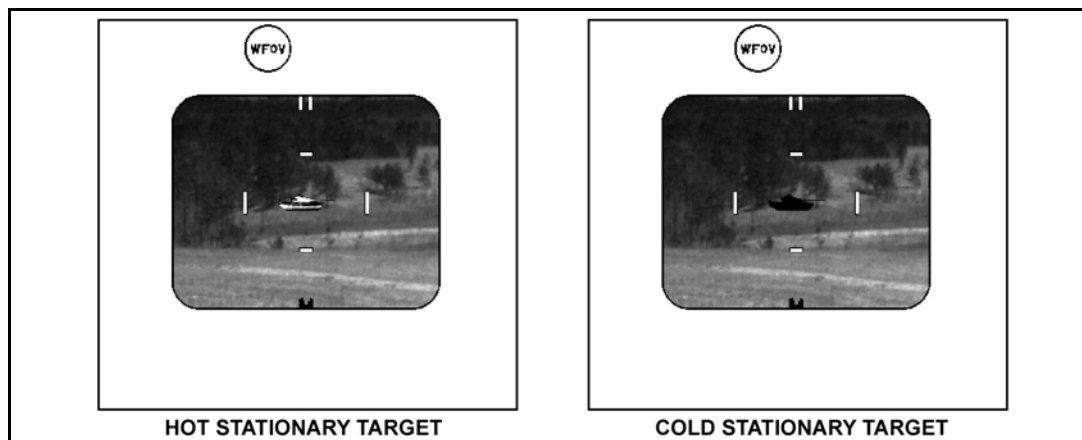

Figure 4-23. Stationary targets.
(1) **Rapid Scan**. The rapid scan method is used to detect obvious signs of enemy activity. This type of scan is used when first occupying a fighting position. (Figure 4-23). The gunner:
(a) **Hot, stationary targets.** Tanks, armored personnel carriers (APCs) and other vehicles either remain running for long periods of time or are started to keep their batteries from running low and to keep their electronics operational. These targets have a hot signature when compared to its surroundings. The gunner easily detects these targets when using the CLU (Figure 4-23).